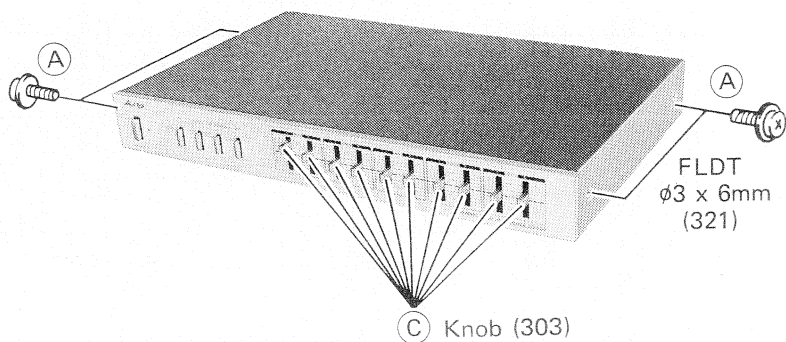

Figure 2.
1. Remove 10 Knobs (C). See figure 2.
2. Remove 5 screws (A) and (B).
See figure 2 and 3.